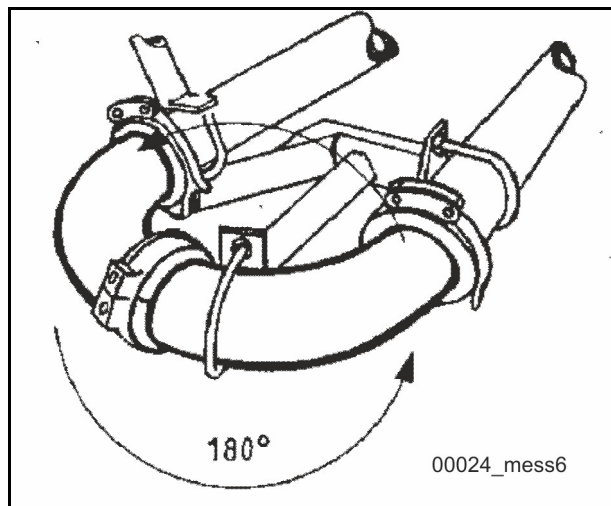

Fig. 359
- Turn pumping pipes and elbows 180° from the inlet side to the outlet side after 50 % of their expected service life (Fig. 359).